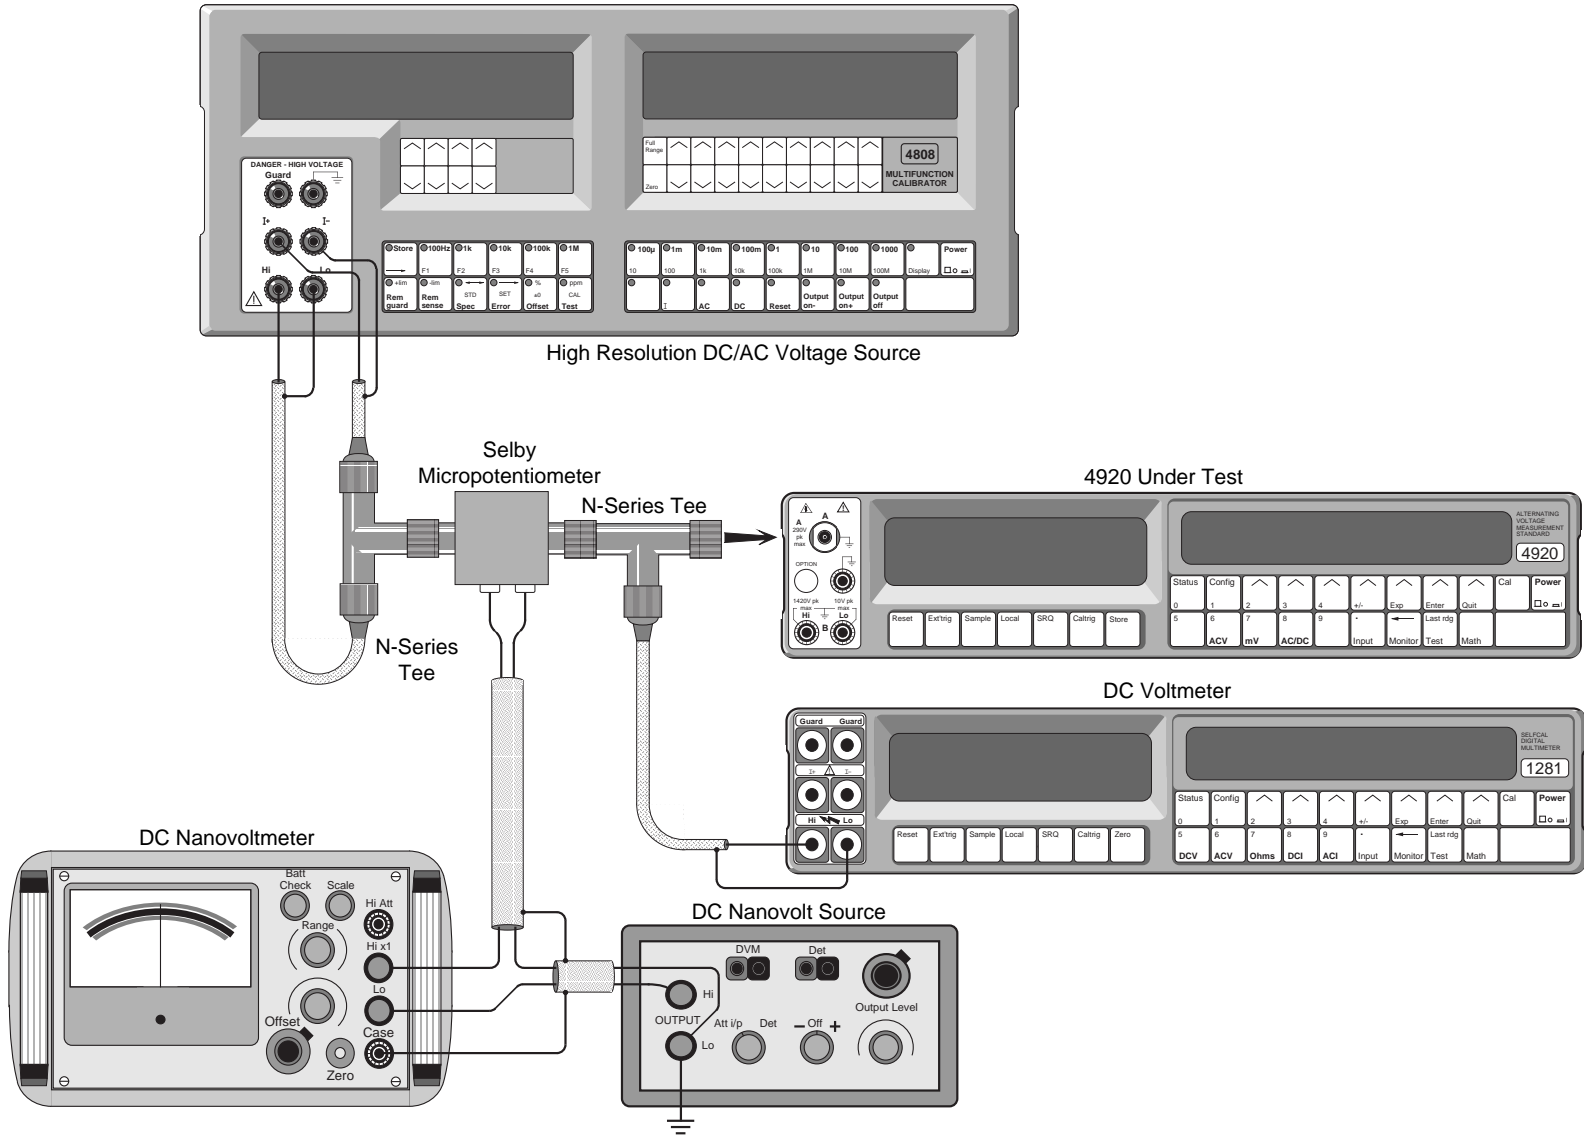

FIG. 8.1 ACV 100mV CALIBRATION - INTERCONNECTIONS
2. Connect the high resolution DC voltage source (DC calibrator) into the calibration setup as shown in Figure 8.1. On a DC calibrator set 100mV on the 1V output range to ensure that an active (low impedance) DC source is used. Select the 4920's ACV 0.3V range.